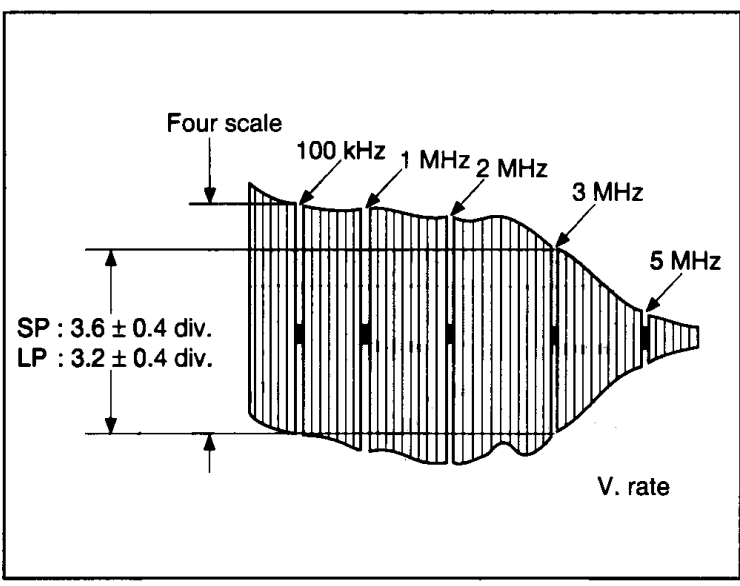

Fig. 3-3-7 S-VHS VIDEO EQ
- When assuming the 100 KHz sweep signal marker on the bigger channel is four scales on the oscilloscope, adjust the CH "▲" or "▼" buttons on the front panel or the Digit-key remote controller so that the 3 MHz is set at  $3.6 \pm 0.4$  scale ( $-1 \pm 1.0$  dB) while observing Y OUT of the S output. (See Fig. 3-3-7.)
- Carry out the step (3) and (4) in the S-VHS LP mode.
- When assuming the 100 kHz sweep signal marker on the bigger channel is four scales on the oscilloscope, adjust the CH "▲" or "▼" buttons on the front panel or the Digit-key remote controller so that the 3 MHz is set at  $3.2 \pm 0.4$  scale ( $-2 \pm 1.0$  dB) while observing Y OUT of the S output. (See Fig. 3-3-7.)